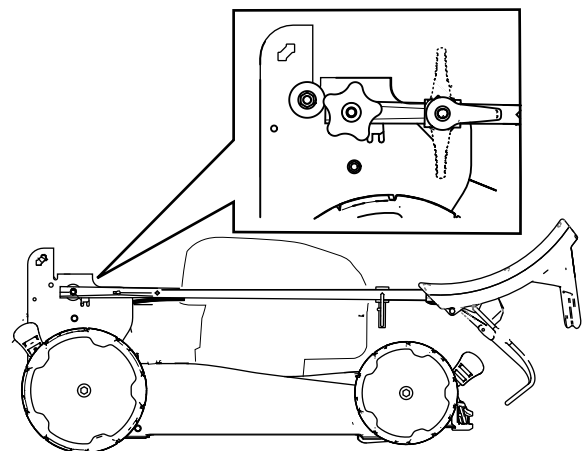

Figure 22
4. Fold the handle forward either to the fully forward position as shown in Figure 22.